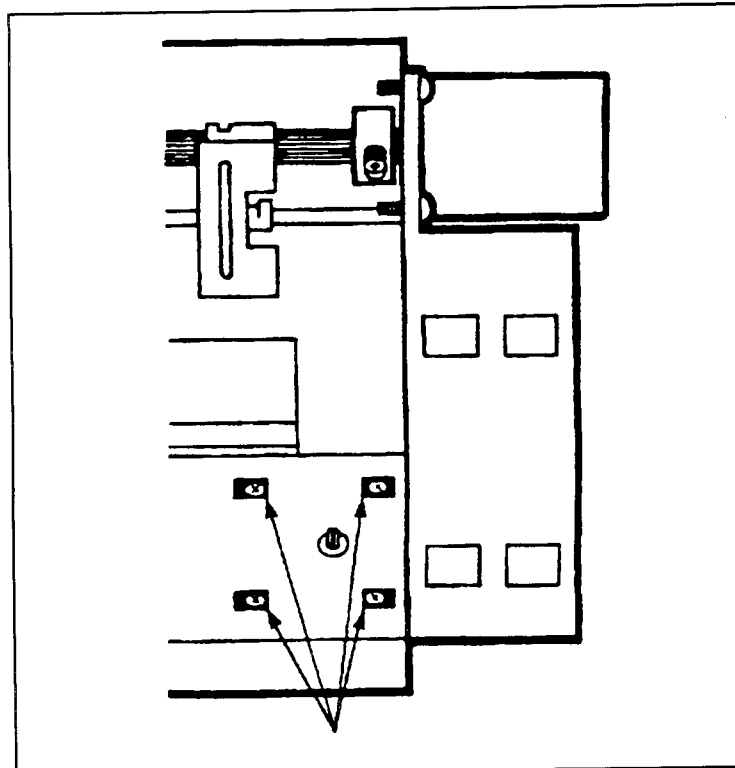

Figure 6-8. Ribbon Motor Screws
- e. Remove the four pozidrive screws which secure the ribbon motor assembly to the printer weldment housing (see Figure 6-8).